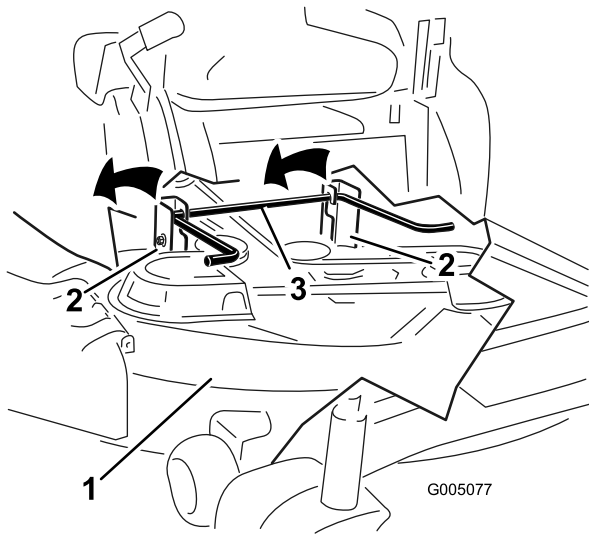
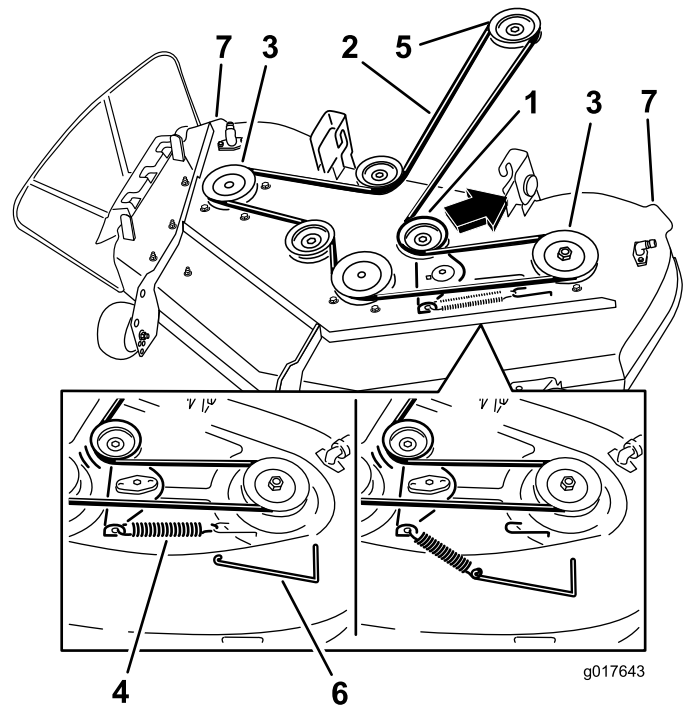

Figure 61
Figure 62
5. Using the mower deck handles, lift the mower deck and hanger brackets clear of the rear lift rod and lower the mower carefully to the ground (Figure 61 and Figure 62).
4. Using a spring removal tool, (Toro part no. 92-5771), remove the idler spring from the deck hook to remove tension on the idler pulley and roll the belt off of the pulleys (Figure 62).
- 5. Route the new belt around the engine pulley and mower pulleys (Figure 62).
- 6. Using a spring removal tool, (Toro part no. 92-5771), install the idler spring over the deck hook and placing tension on the idler pulley and mower belt (Figure 62).
5. Lift the rear of the mower deck and guide the hanger brackets over the rear lift rod (Figure 61).